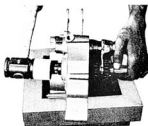

Fig. 4-15-7
- 3) Remove the transmission and shifter as a unit. (Fig. 4-15-7)